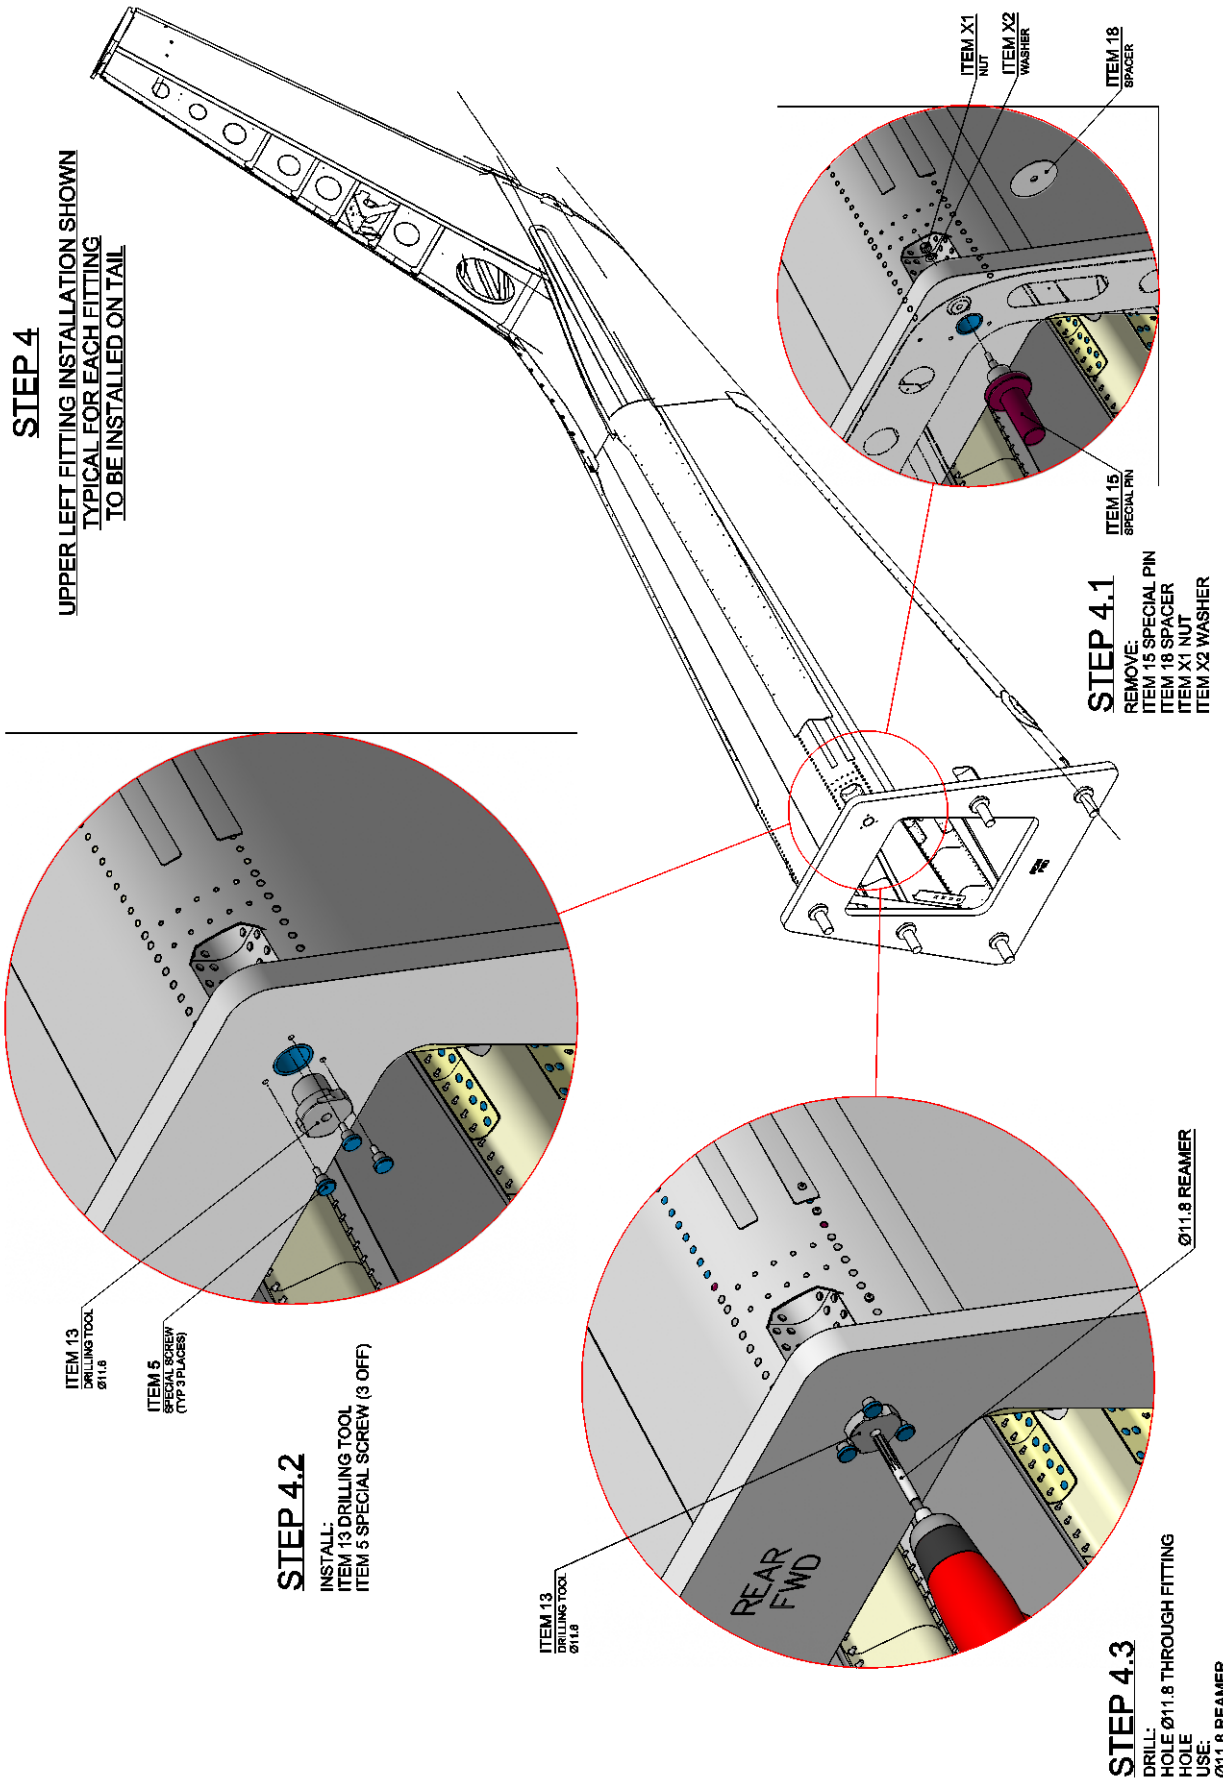

Figure A5
6. With reference to Figure A5, remove a special pin (ITEM 15), a spacer (ITEM 18), a washer (ITEM X2) and a nut (ITEM X1) installed in the previously step and install the drilling tool  $\varnothing 11.8$  (ITEM 13) by means of n°3 special screws (ITEM 5).
7. With reference to Figure A5, ream the fitting hole to  $\varnothing 11.8$  by means of reamer  $\varnothing 11.8$ .